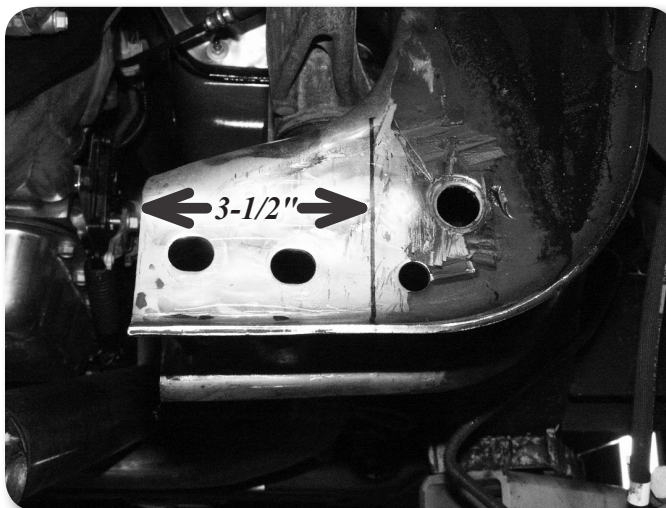

Figure 14
23. Measure from the inside of the driver's side control arm pocket out 3-1/2" and mark. Repeat this measurement on the opposite side of the pocket. Make vertical cut lines at the 3-1/2" mark up both front and back faces of the pocket **Figure 14**.